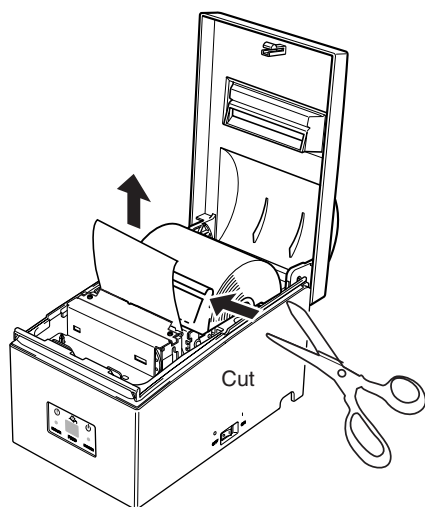

Fig. 5-16 Cutting the paper
- ④ Cut the paper before the paper feeder as shown in Fig. 5-16.
- ⑤ Remove the jammed paper and reload the roll paper.